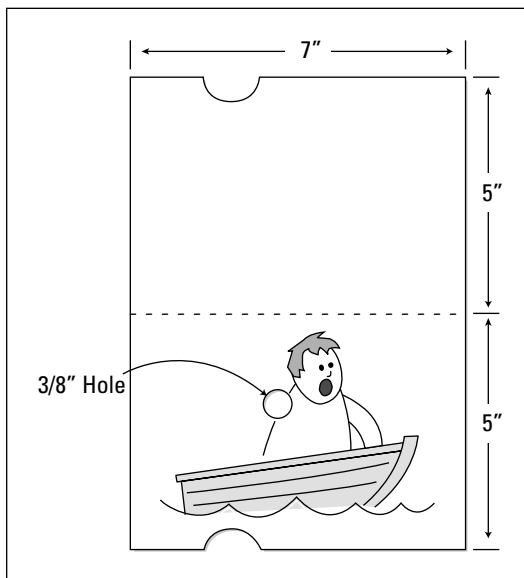

Figure 7-3: The main part of the pull-tab greeting card.
1. Mark out the card as Figure 7-3 shows; draw the character in the boat with a black felt-tipped pen and color it in.